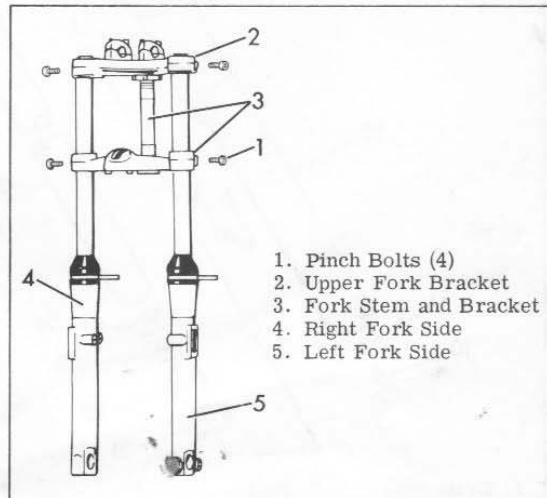

Figure 2.22. Removing Fork Side From Brackets
Remove front wheel as described in "REMOVING AND INSTALLING FRONT WHEEL." Loosen two pinch bolts (1), Figure 2.22, that secure fork side - either (4) or (5) - to motorcycle. The upper bolt attaches fork side to upper fork bracket (2); the lower bolt, to lower fork stem and bracket (3). Remove fork side from brackets by pulling down until fork side is free of both brackets.